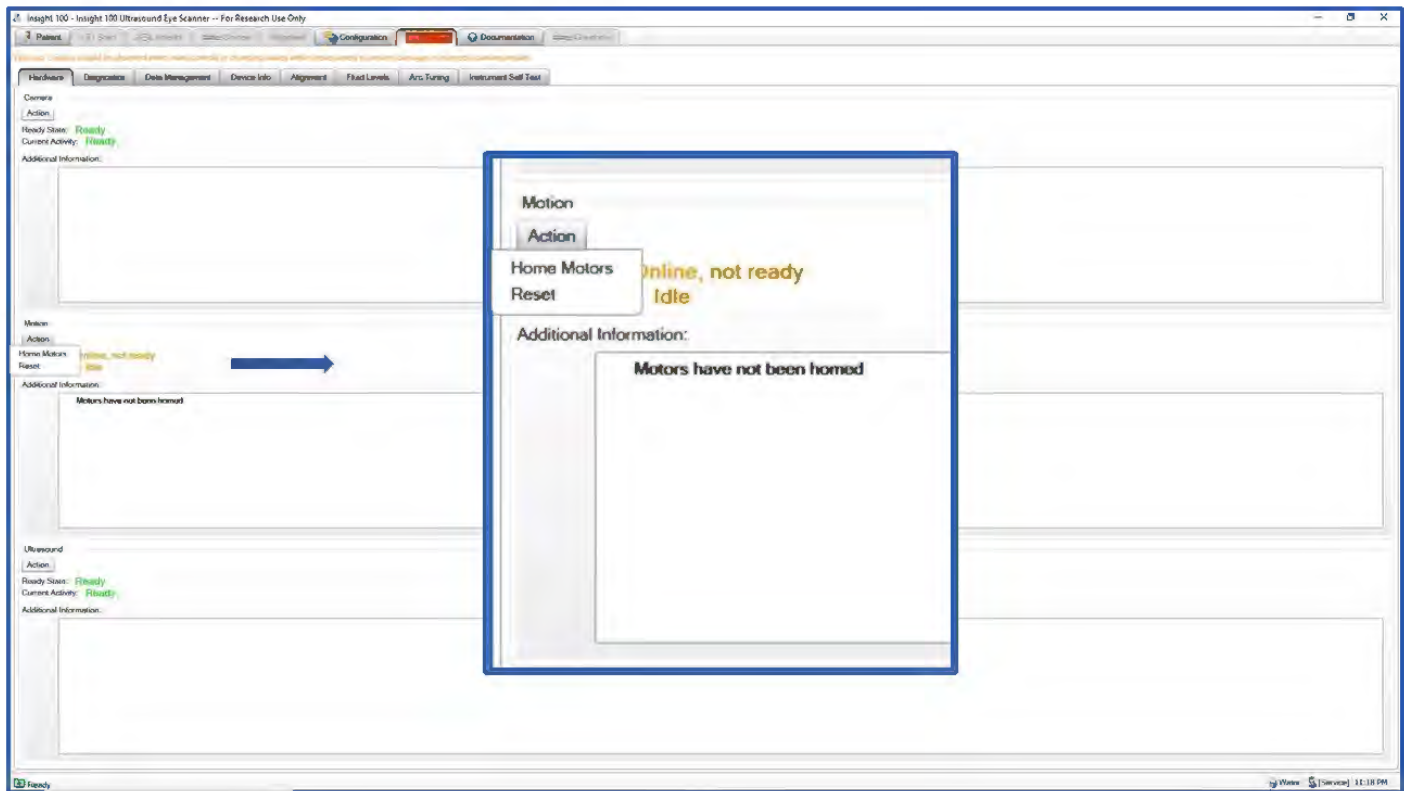

Figure 38: Home motors command
7. Once the scan head is 100 % filled with water, go to the **Hardware** subtab under **Utilities** tab. Then, on **Motion**, click the **Action** button, then **Reset**. Wait for motors to reset. Then click **Home Motors**. See Figure 38.